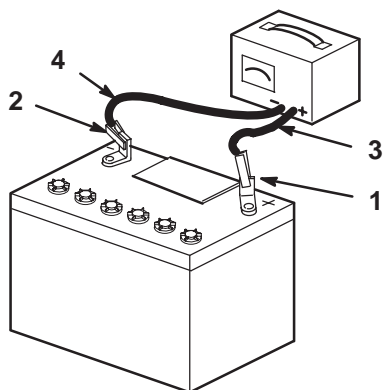

Figure 62
- When the battery is fully charged, unplug the charger from the electrical outlet, then disconnect the charger leads from the battery posts (Fig. 62).